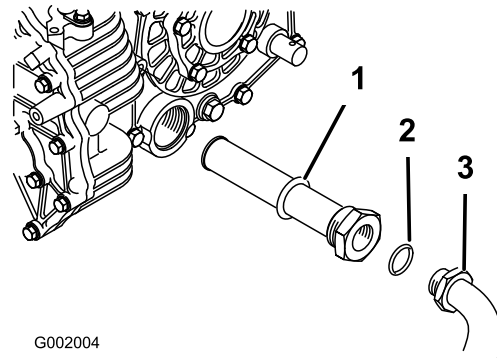

Figure 67
5. Remove the hydraulic hose and 90 degrees fitting (Figure 67).